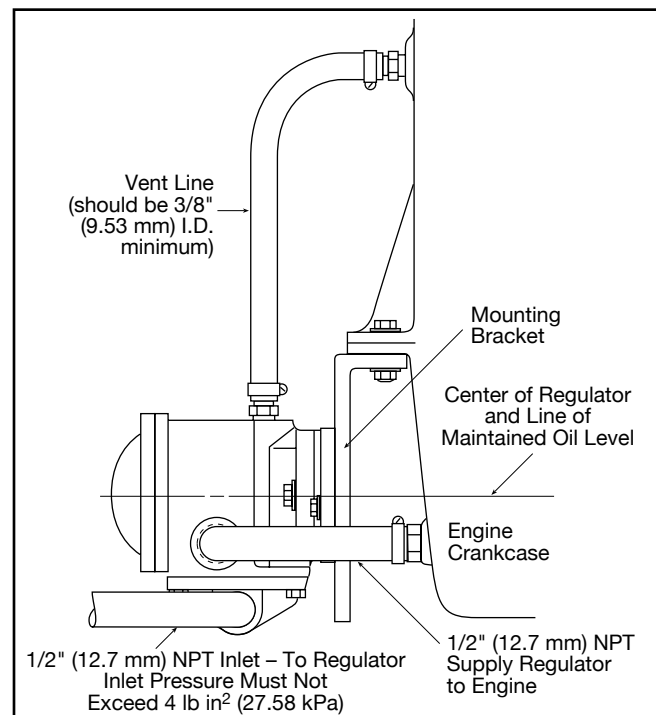

Figure 1 – Installing the Regulator
7. A vent line **MUST** be fitted. Connect a vent line, 3/8" (9.53 mm) I.D. minimum, from the port on the top of the regulator to a port on the engine that is above the oil level – for best performance vent line should be 3/8" (9.53 mm) I.D. minimum. If no port is available below the pistons you can connect to the valve covers (see Figure 1).
8. Connect the engine supply line, 1/2" (12.7 mm) I.D. minimum, from the outlet of the regulator to the auxiliary drain plug or a tee in the existing drain plug (see Figure 1).
9. Connect the regulator supply line, 1/2" (12.7 mm) I.D. minimum, from the reserve oil tank to the regulator inlet (see Figure 1).